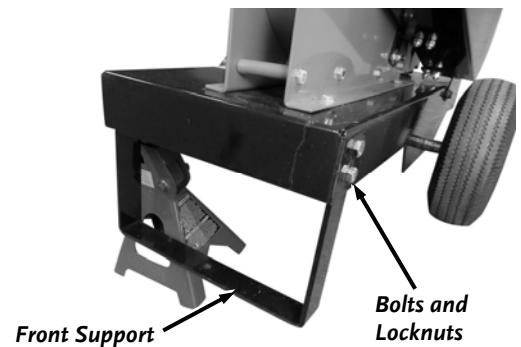

Figure 44
1. Support the Base of the Chipper to lift the Front Foot off the ground (**Figure 44**).